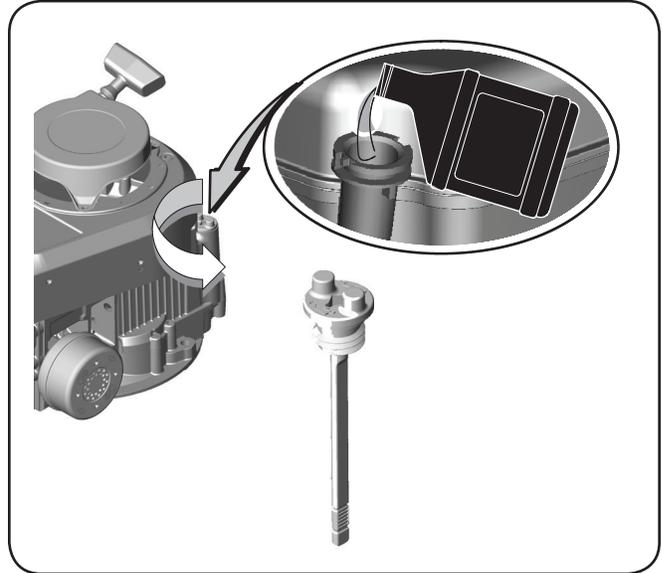

Figure 3-11
1. Remove the oil fill/dipstick using a flat head screwdriver. Add the entire contents of the bottle of oil provided. See Figure 3-11.